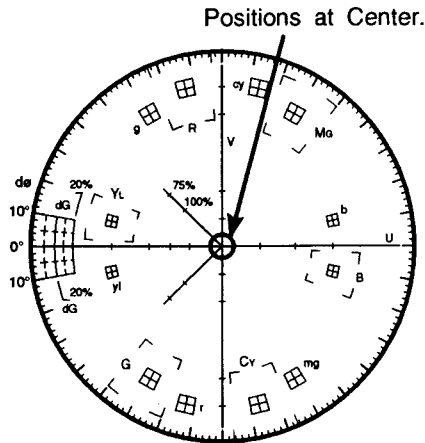

Fig. 5-42
- Adjust data with the **ARROW** keys so that vector positions at the center of the Vectorscope as shown in Fig. 5-42.